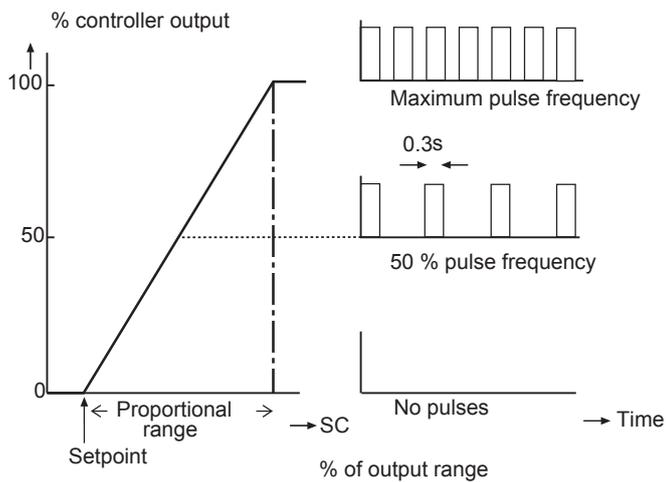

Fig. 5.5 Pulse frequency control
- \*FREQ. The maximum frequency for the pulse frequency control. See fig 5.5.